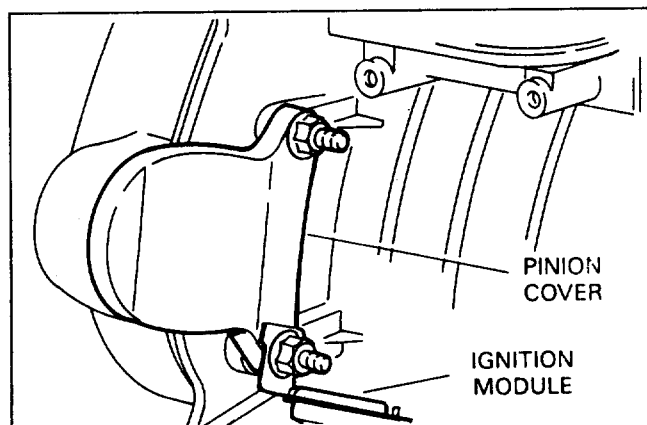

Figure 2
3. For models without an additional casting in the starter mount location, remove (2) M8 flange nuts securing pinion cover to engine. Remove and discard cover (Fig. 2). Set flange nuts aside for later use.